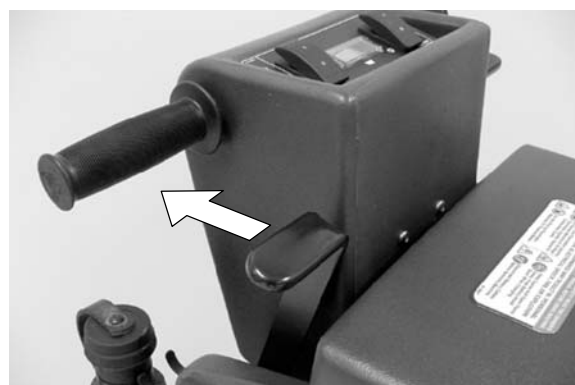

FIG. 8
- Pull solution flow lever completely back to shut off solution flow (Figure 8).